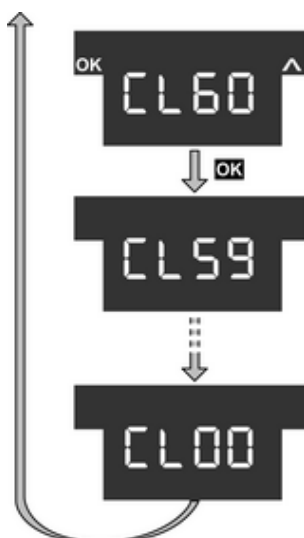

Figure 9
- Press the sensor button **^** to select menu item **CL60** for the cleaning function and then press the sensor button **OK** (Figure 9).